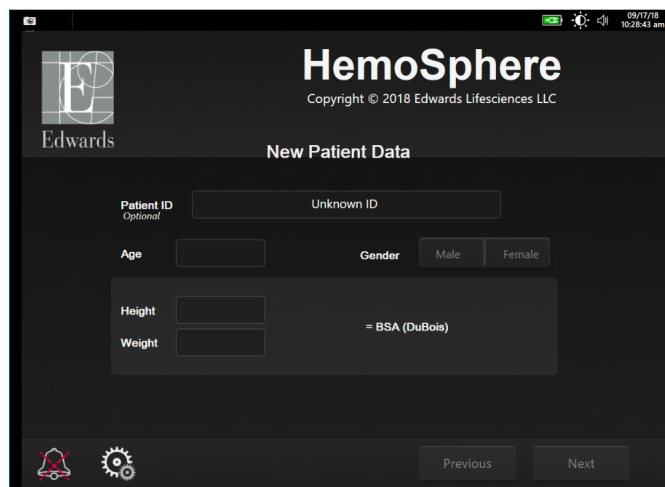

Figure 6-2 New Patient Data screen
- 4 The **New Patient Data** screen appears. See figure 6-2.